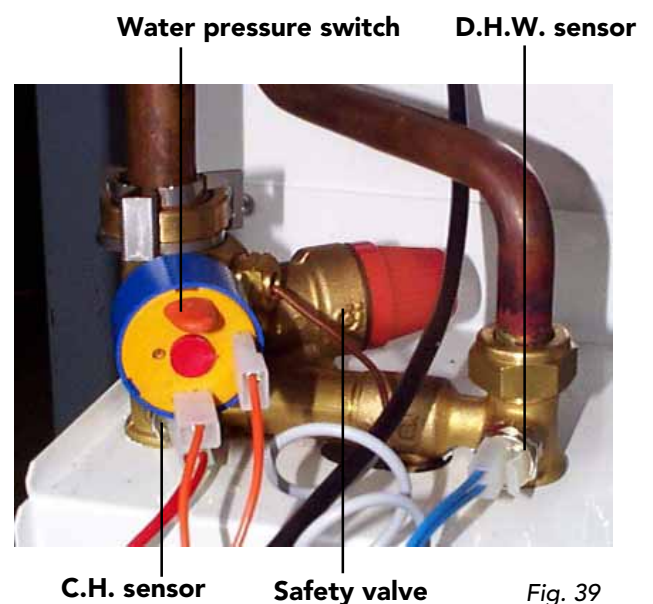

Fig. 39
### 7.07.1 D.H.W. temperature sensor or Central Heating Temperature Sensor (fig. 39)
- Identify the sensor from figure 39
### 7.07.2 Water Pressure Switch (fig. 39)
- Identify the switch from figure 39
### 7.07.3 Safety Valve (fig. 39)
- Identify valve from fig. 39